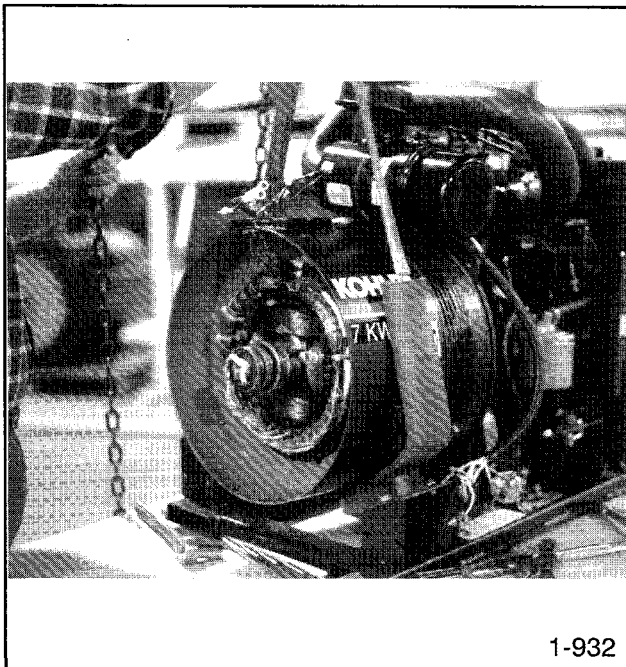

Figure 8-11. Removing the Stator.
20. Carefully remove the stator by pulling the stator over the rotor assembly. See Figure 8-11.